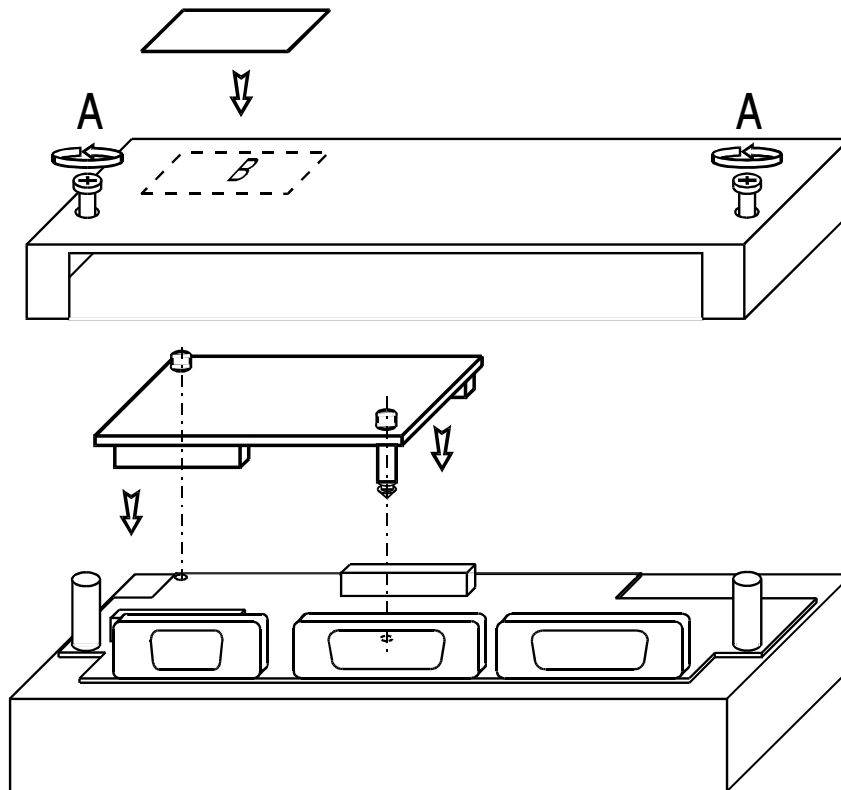

Figure 47 - Mounting the communication modules
- 2) partially unscrew with a screwdriver the 2 screws holding the rear cover. The screws are labelled 'A' in Figure 47